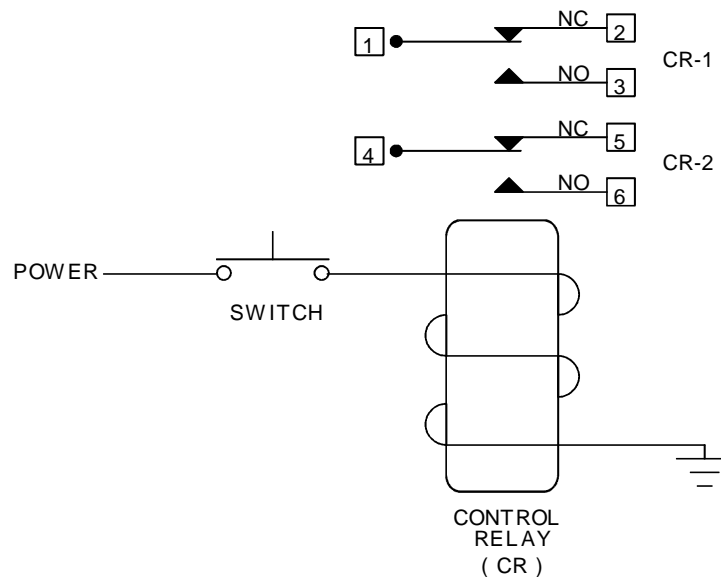

Figure 1: Basic Relay
A typical industrial relay is shown in *Figure 1: Basic Relay*. A relay is a coil of wire wrapped around a core. When the switch is closed current flows through the coil and an electromagnet is created. The armatures, 1 and 4, are drawn from the Normally Closed (NC) connection to the Normally Open (NO) connection.
The relay shown in figure 1 has two sets of contacts, CR-1 and CR-2. When power is applied to the coil, the connection between contacts 1 and 2 of CR-1 is broken and the connection between contacts 1 and 3 is made. The status of the contacts is directly controlled by the current flow through the coil.